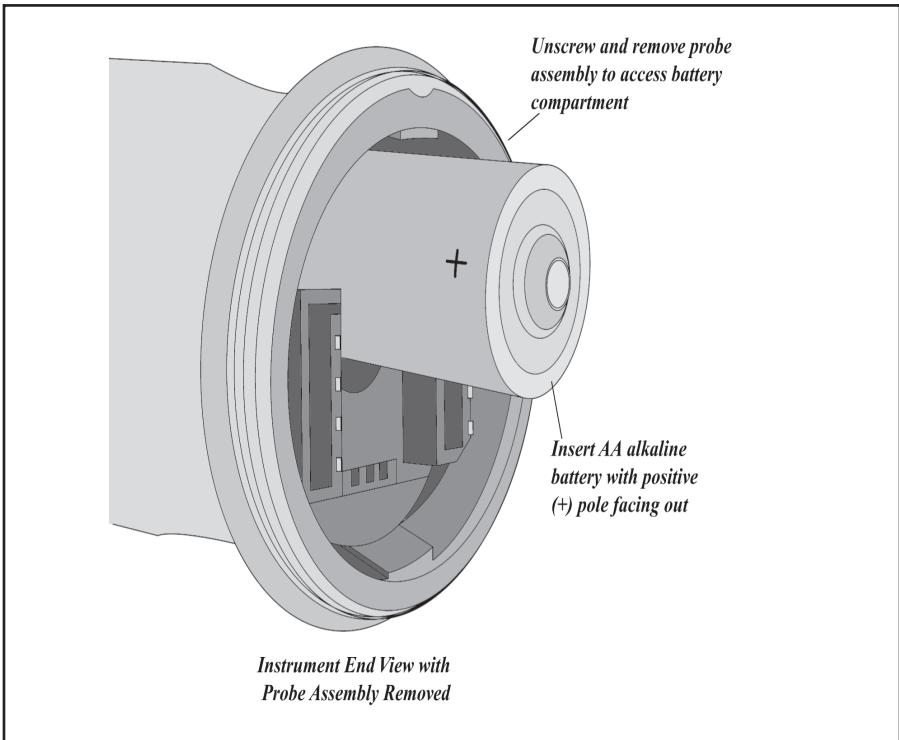

Figure 1-1—Battery Replacement
To install the battery, refer to Figure 1-1 and follow these steps:
Step 2—Insert one “AA” battery in the instrument. Make sure the battery poles are oriented as shown in Figure 1-1. The instrument will not function if the battery is inserted incorrectly.